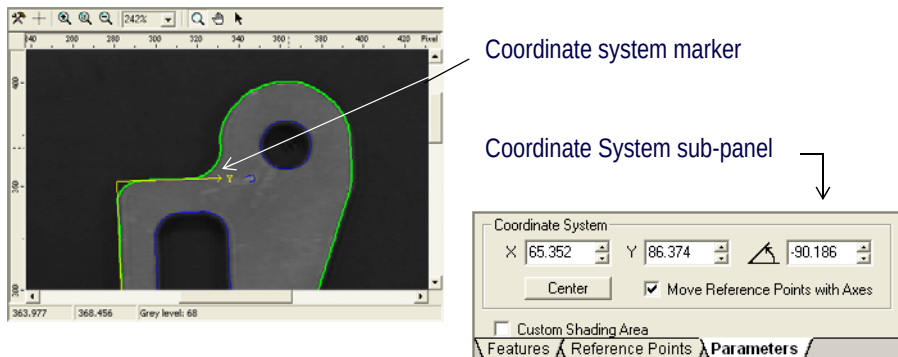

Figure 22 Adjusting the Position and Orientation of the Model Coordinate System
3. Use the mouse to position the coordinate system marker (yellow axes) over the object, as shown in Figure 22.